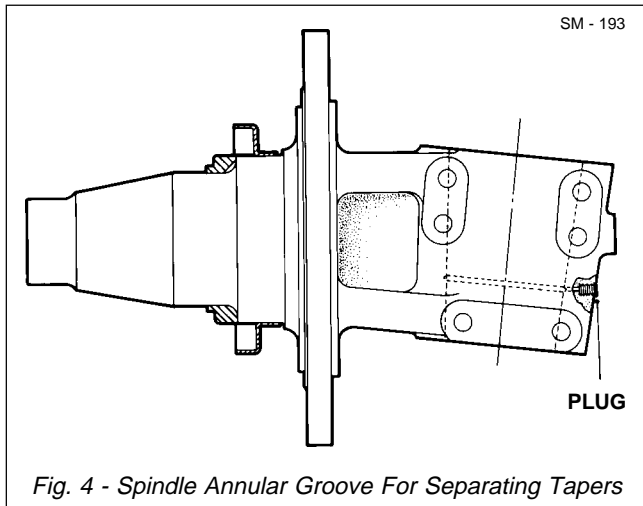

Fig. 4 - Spindle Annular Groove For Separating Tapers
5. The spindle can be removed from piston rod (24) by applying hydraulic pressure through the annular groove machined on the spindle taper. This can be done by removing the small plug from the spindle, and connecting a hand pump or high pressure grease gun. Refer to Fig. 4.
6. Remove bolts (17) and hardened washers (8) securing piston (13) to the top of piston rod (24).
7. Install a lifting eye in the top of piston rod (24) and attach to an adequate lifting device. Slide piston rod (24) and piston (13) out from the top of tube (18) as an assembly.